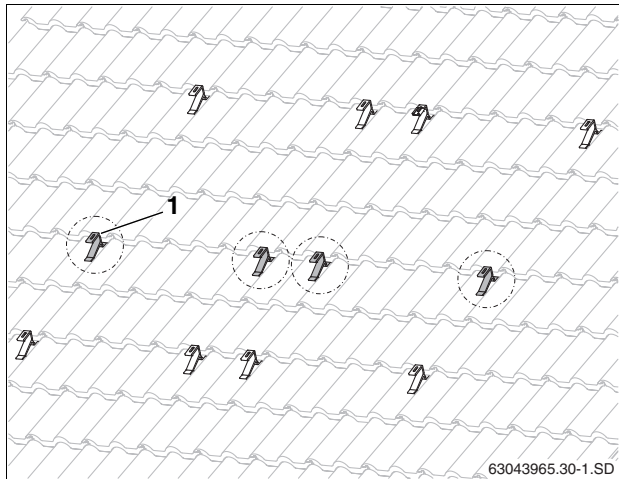

Fig. 25 Additional roof hooks for the accessory rails (here: for two collectors)
- ▶ The third row (Fig. 25, [1]) should be centered between the upper and lower rows already installed.